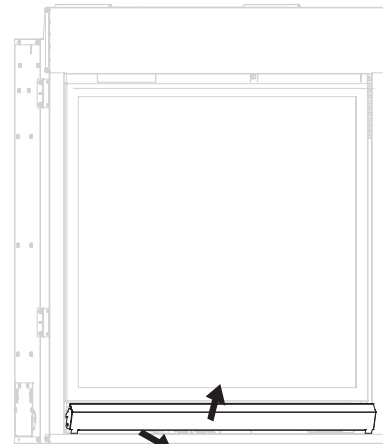

Figure 4
1. Make sure power is turned off prior to any removal. Lift and pull panel to remove from bottom assembly. **See Figure 4.**
20. Replace bottom assembly removed in step 1. **See Figure 4.**